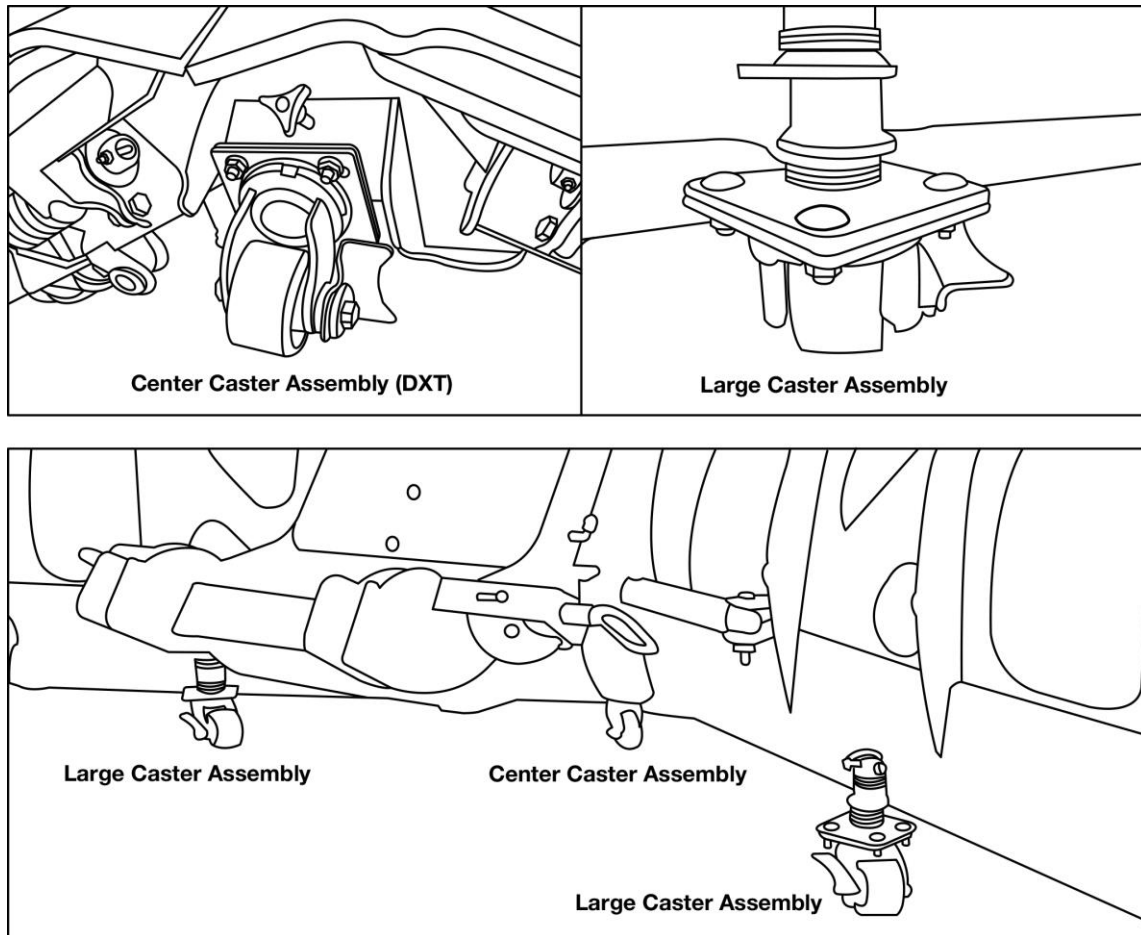

Figure 6. Caster Kit, DXT V-Blade Casters Shown Installed on a Power V DXT Blade
2. Remove any plow shoes and store. Install the two large 3.25" caster assemblies in both rear shoe holders as shown in Fig. 6 (adjust washers as needed above/ below shoe holder). Be sure to lock them in with the quick pin. Partially install the **plastic knob** on the center caster bracket. Slide the Large center caster onto the plow center bottom plate as shown in Fig. 6 with the plastic knob facing forward. Tighten the plastic knob snug to secure the caster to the plow.